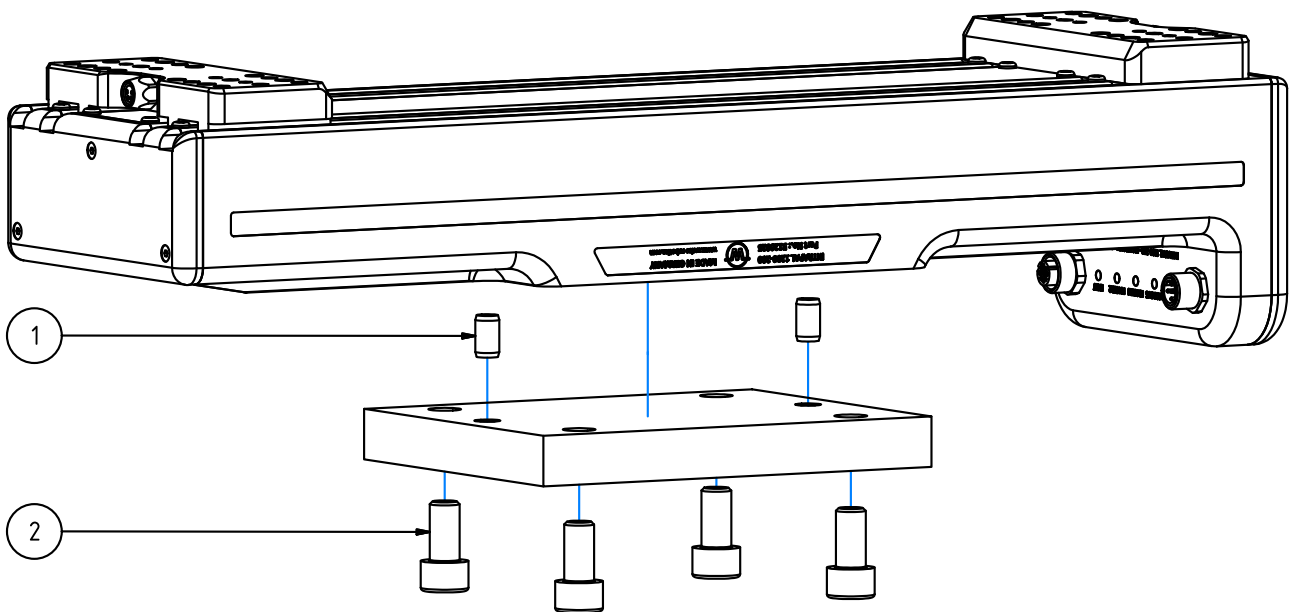

Figure 11: Mounting the gripping module
The gripping module can be mounted from below against a surface (Figure 11). The dowel pins (1) must be used for mounting and are included in the gripping module accessory pack.